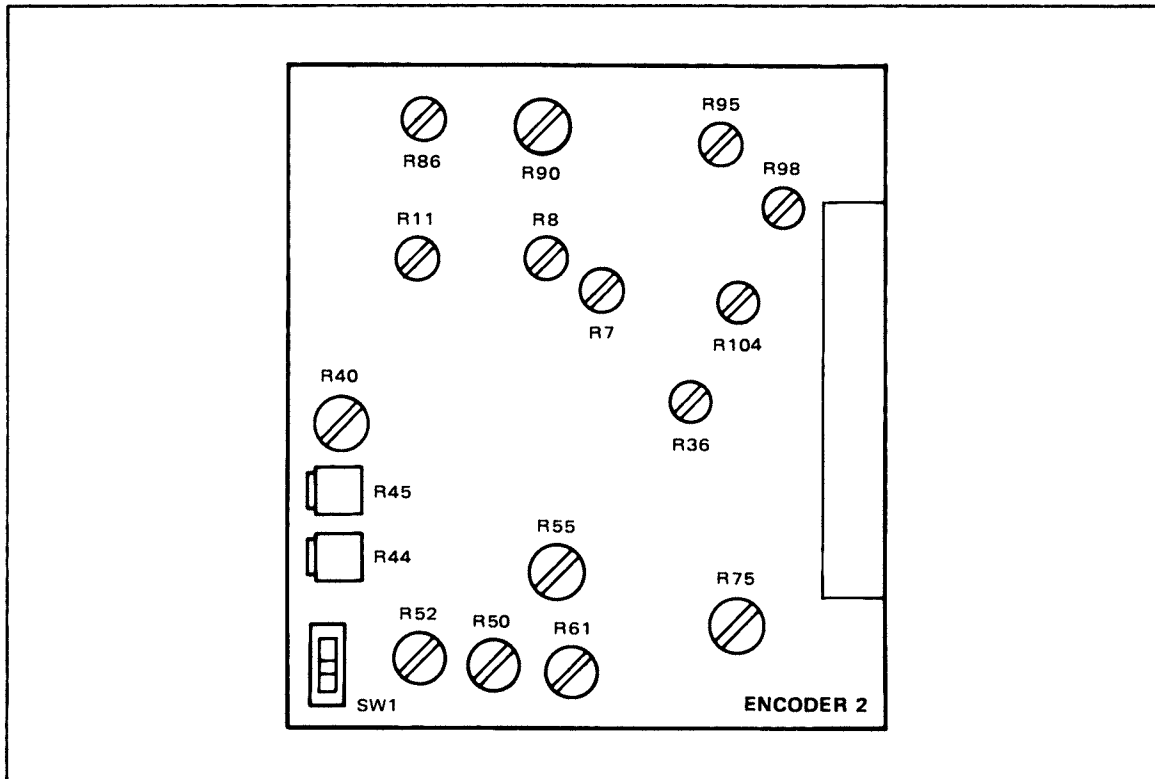

Figure 5-15. Encoder 2 PWA
- STEP 5 Observe color monitor and adjust R47 (I WQ BAR) so that line between W and Q comes to center of cyan bar (Figure 5-15).